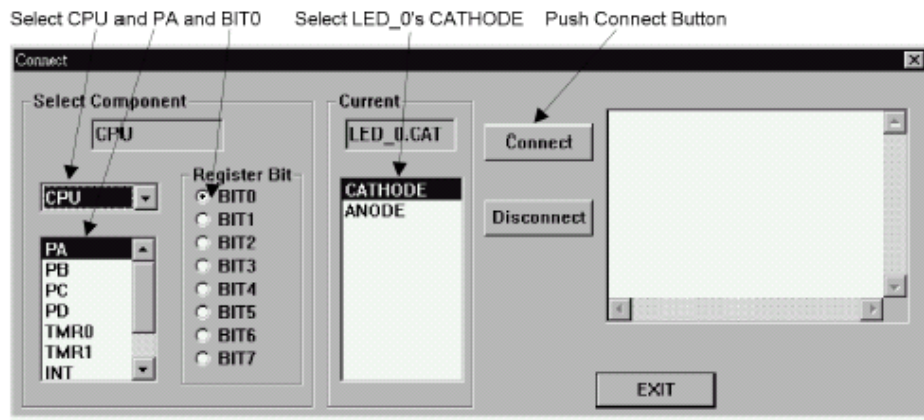

Fig 13-18
- Click the mouse right button on LED_0 to display the connect dialog box as shown as Fig 13-18